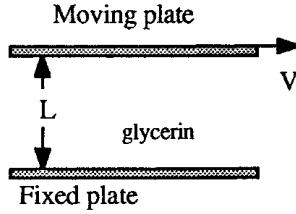

Fig. P1.38
**1.38** In Fig. P1.38, if the fluid is glycerin at 20°C and the width between plates is 6 mm, what shear stress (in Pa) is required to move the upper plate at  $V = 5.5 \text{ m/s}$ ? What is the flow Reynolds number if “L” is taken to be the distance between plates?